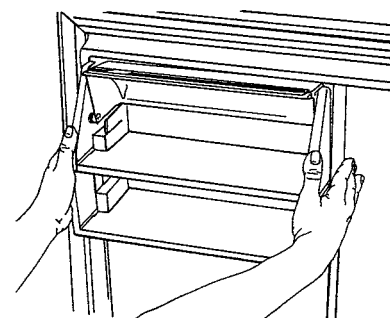

Figure 12.
- d. While holding in lock tabs, pull dairy and second serving shelf system straight out. See Figure 12.